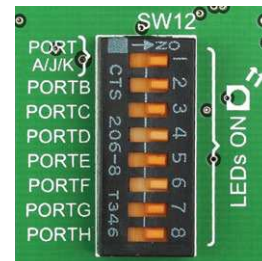

Figure 6-6: SW12.1 through SW12.8 switches are used to enable PORT LEDs
LED (Light-Emitting Diode) is a highly efficient electronic light source. When connecting LEDs, it is necessary to place a current limiting resistor in series so that LEDs are provided with the current value specified by the manufacturer. The current varies from 0.2mA to 20mA, depending on the type of LED and the manufacturer. The EasyMx PRO™ v7 for Tiva™ C Series board uses low-current LEDs with typical current consumption of 0.2mA or 0.3mA. Board contains 67 LEDs which can be used for visual indication of the logic state on PORT pins. An active LED indicates that a logic high (1) is present on the pin. In order to enable PORT LEDs, it is necessary to enable the corresponding DIP switch on **SW12** (**Figure 6-6**).
The current varies from 0.2mA to 20mA, depending on the type of LED and the manufacturer. The EasyMx PRO™ v7 for Tiva™ C Series board uses low-current LEDs with typical current consumption of 0.2mA or 0.3mA. Board contains 67 LEDs which can be used for visual indication of the logic state on PORT pins. An active LED indicates that a logic high (1) is present on the pin. In order to enable PORT LEDs, it is necessary to enable the corresponding DIP switch on **SW12** (**Figure 6-6**).